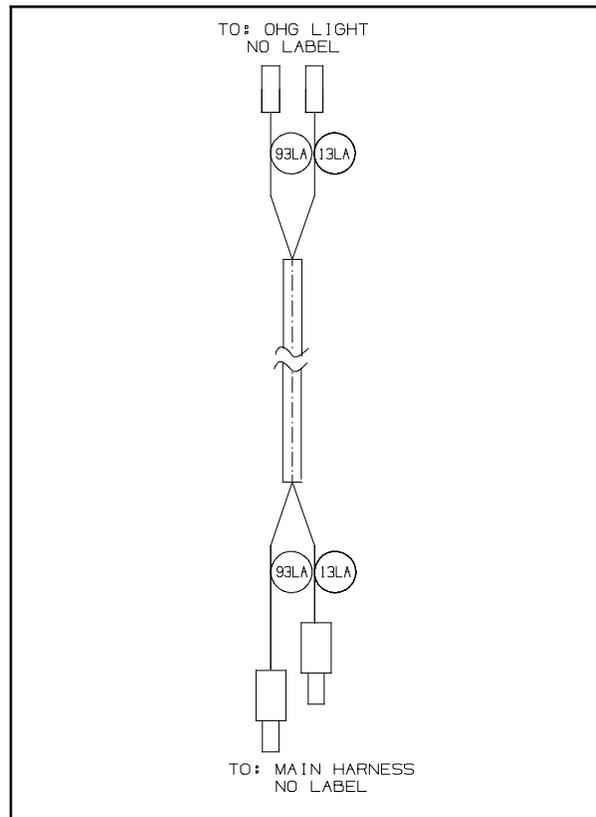
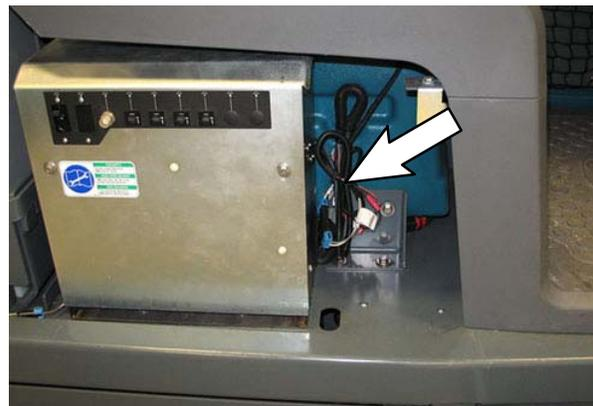
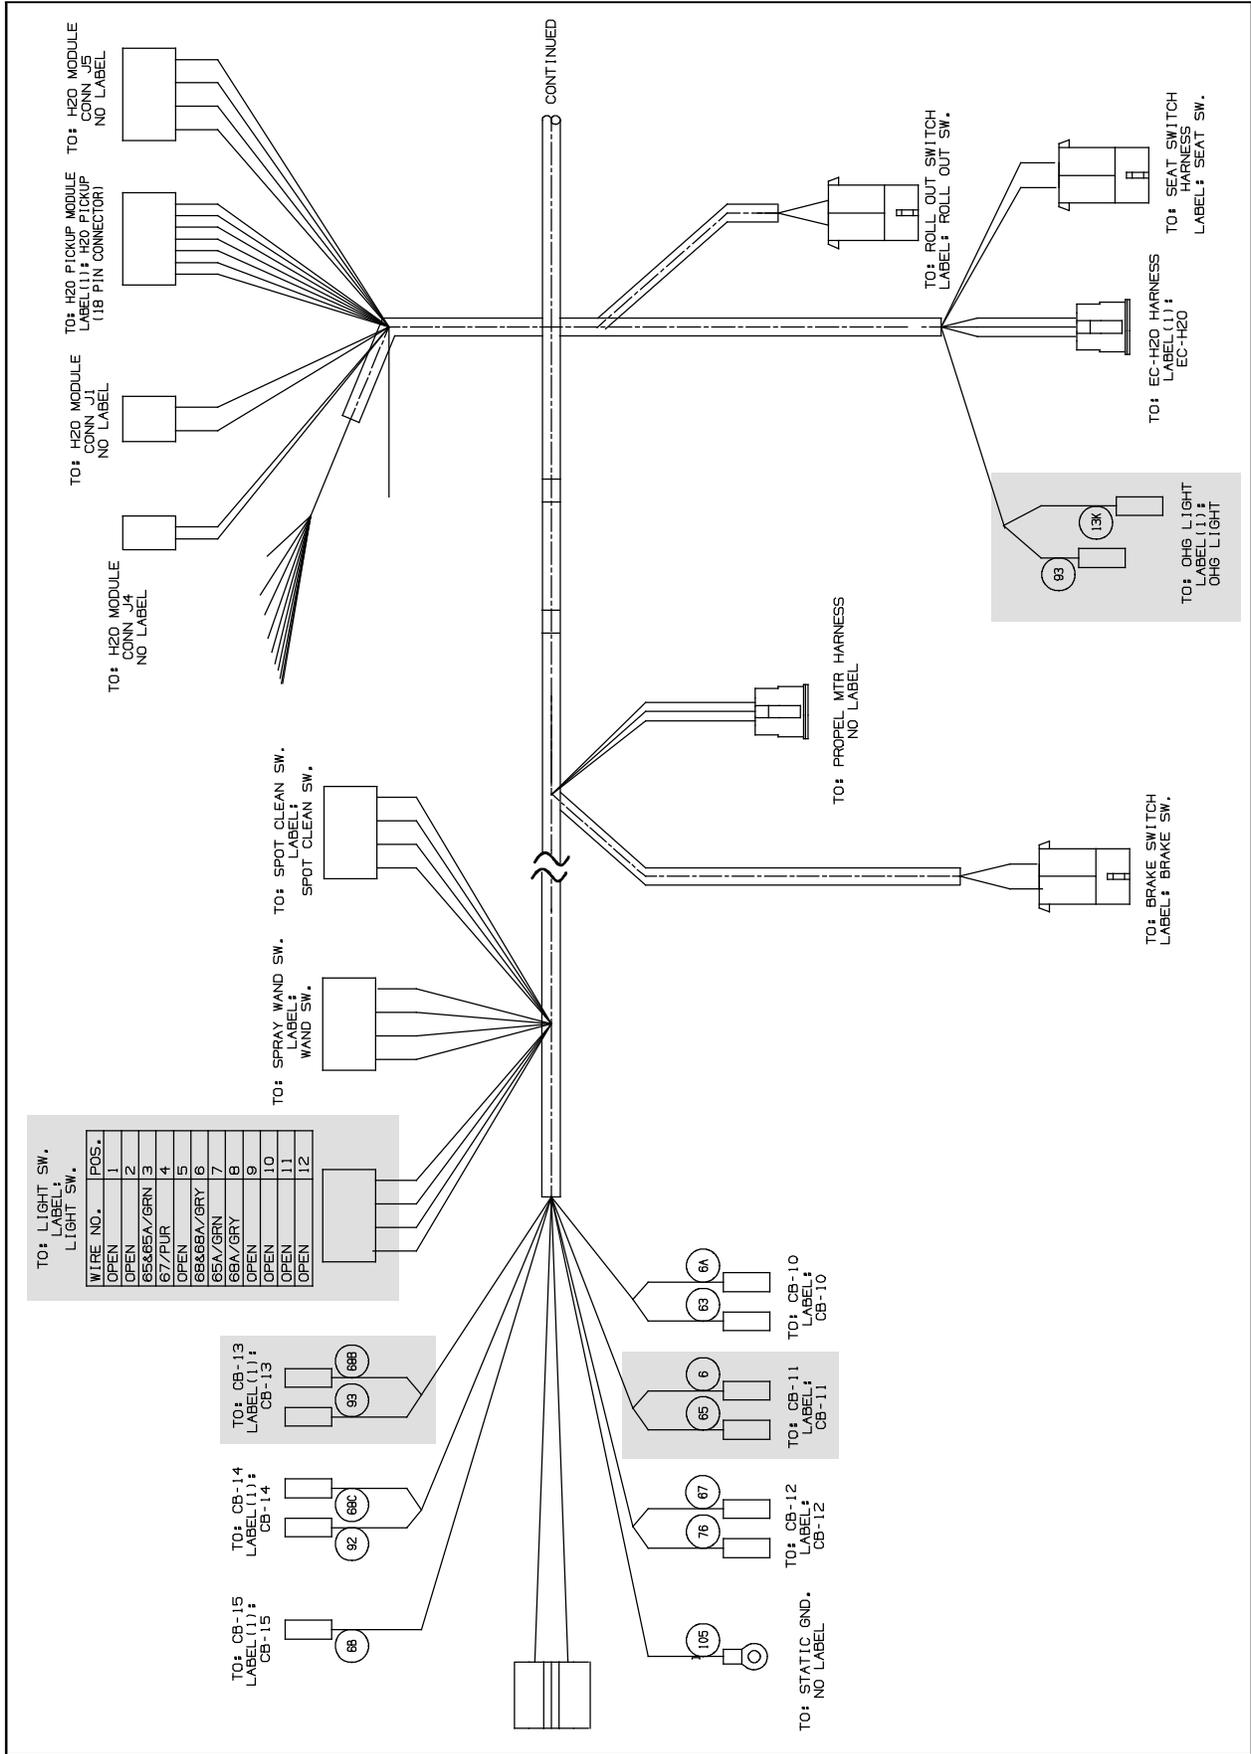
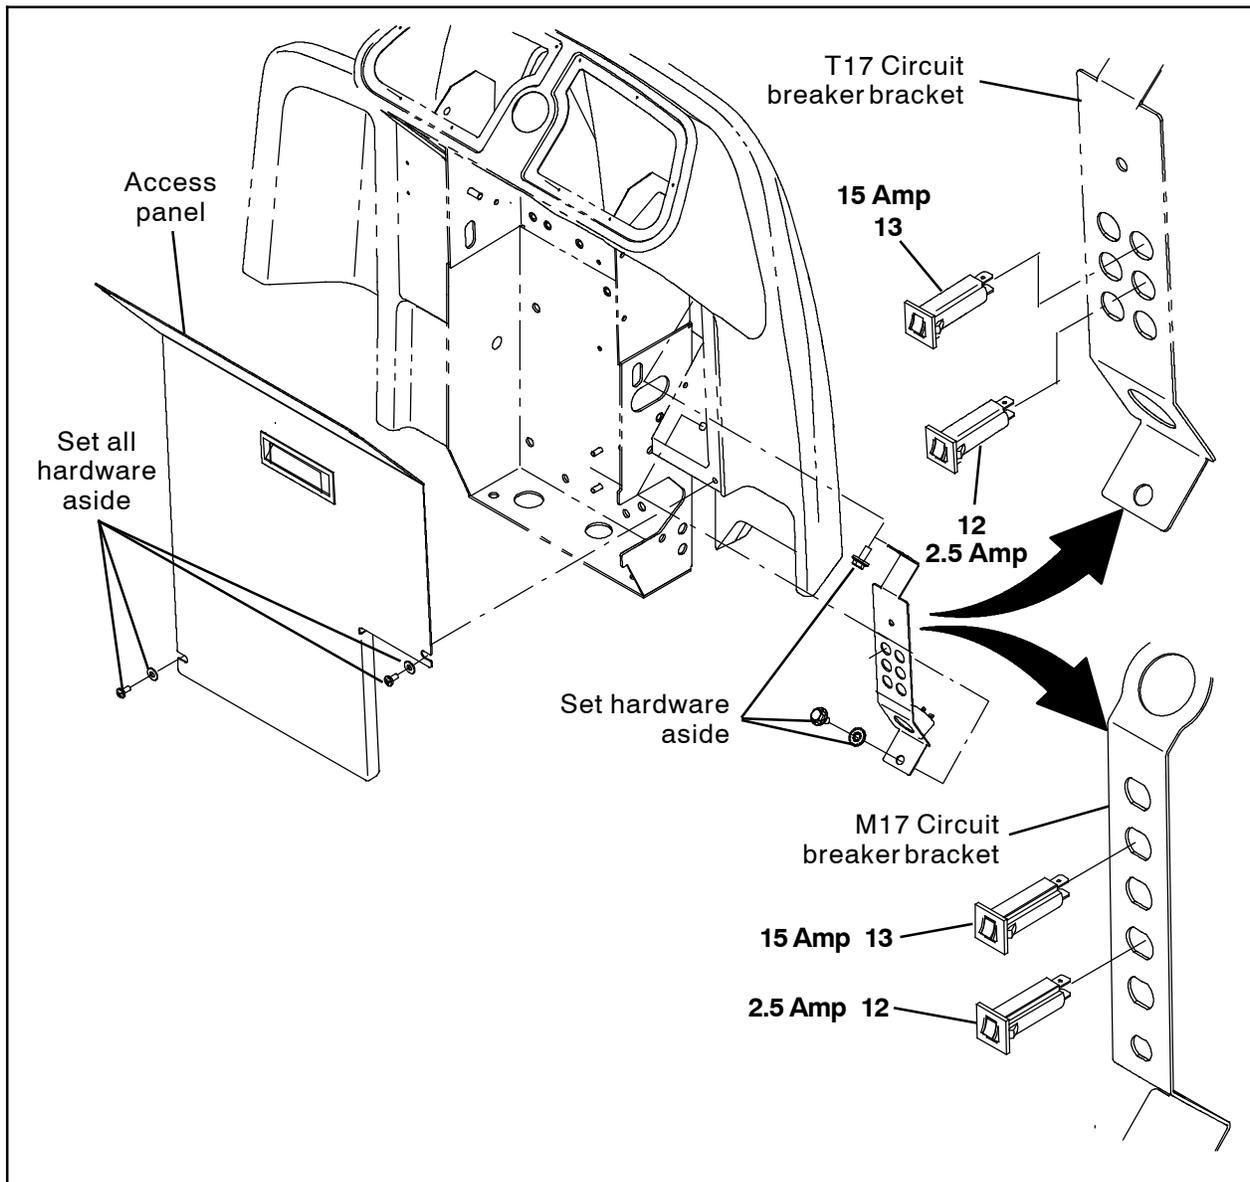

FIG. 5
FIG. 6
FIG. 10 - Main Wire Harness
FIG. 12
- Route the overhead guard harness (9) to the main wire harness overhead guard connector located near the electrical panel and connect the overhead guard harness to the the main wire harness. (Fig. 5 / Fig. 6 / Fig. 10)
15. Connect the overhead guard light wire harness (9) to the strobe light (1). (Fig. 7 / Fig. 10)
22. Connect the main wire harness to the rocker switch (12). (Fig. 8 / Fig. 10)
24. Remove the access panel from the steering channel. Set the hardware aside. (Fig. 12)
25. Remove the M8 hex screws securing the circuit breaker bracket to the machine. Set the hardware aside. (Fig. 12)
26. Carefully pull the circuit breaker bracket out far enough to access the main wire harness connectors located behind the bracket. Do not break harness connections to the other circuit breakers when pulling the circuit breaker bracket from the machine. (Fig. 12)
27. **Machines without front light kit option only:** Insert the 15- Amp circuit breaker (13) into circuit breaker location 11 in the circuit breaker bracket. (Fig. 12)
28. Insert a 2.5 Amp circuit breaker (12) into circuit breaker location 13 in the circuit breaker bracket. (Fig. 12)
29. Connect the main wire harness to the previously installed circuit breaker(s). (Fig. 12 / Fig. 10)
30. Reinstall the circuit breaker bracket onto the machine. (Fig. 12)
31. Reinstall the access panel onto the steering channel. (Fig. 12)